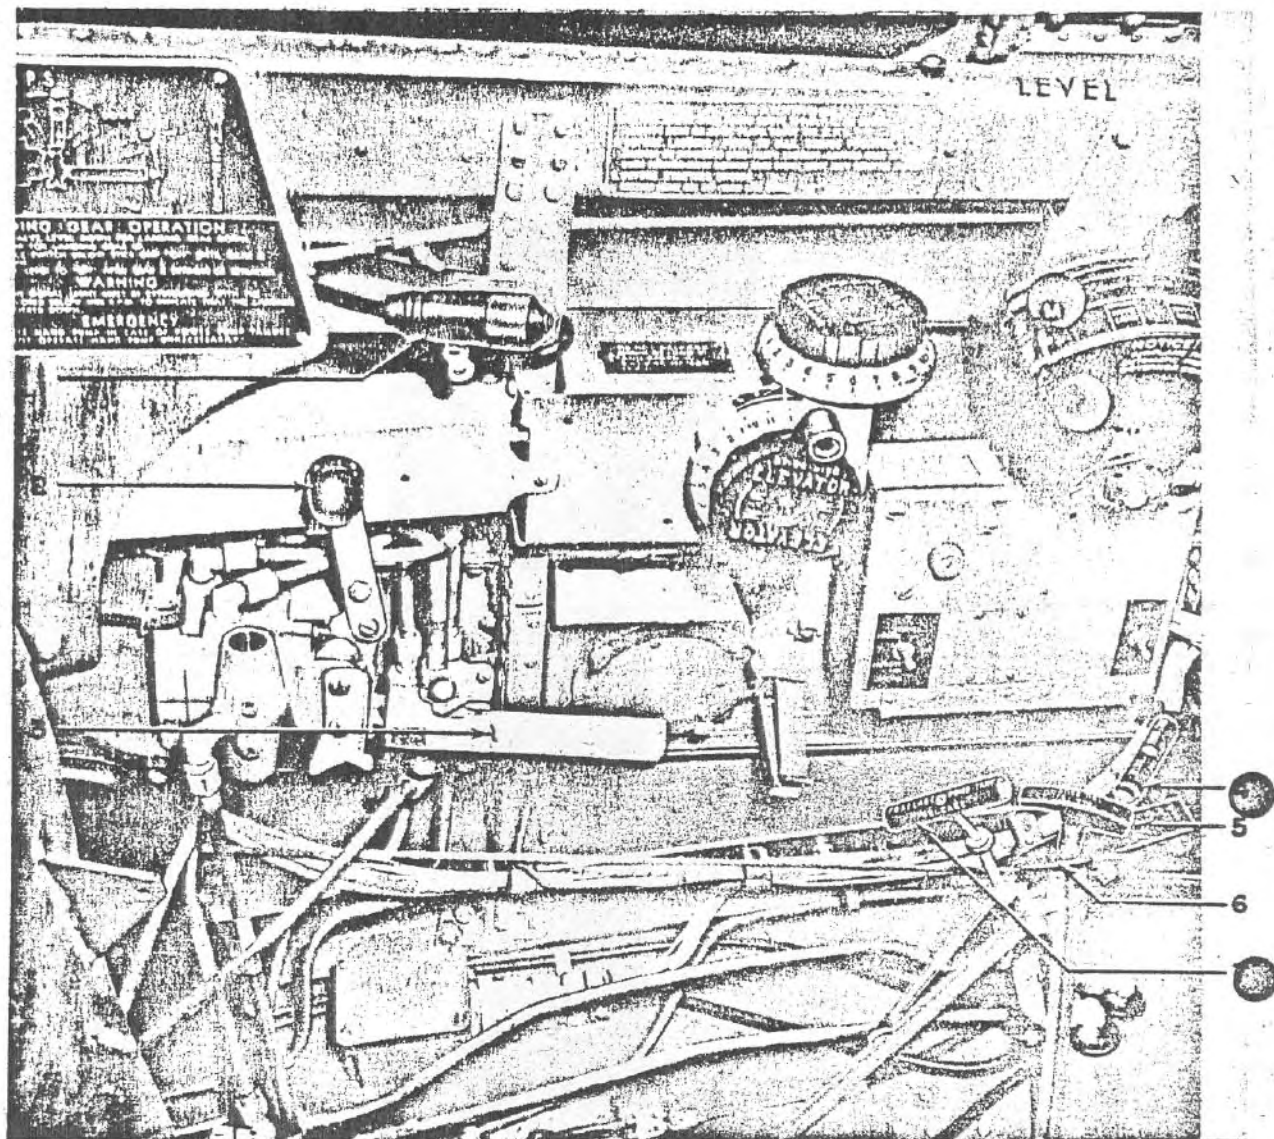

Figure 32—Cockpit—Left Side Rear
- (1) Ignition switch "OFF".
- (2) Gun switch "OFF".
- (3) Landing gear control handle "NEUTRAL" (figure 32). A small locking device projecting from the top side of the control handle must be held in its "forward" position to permit up movement of the control handle.
- (4) Flap control handle "NEUTRAL".